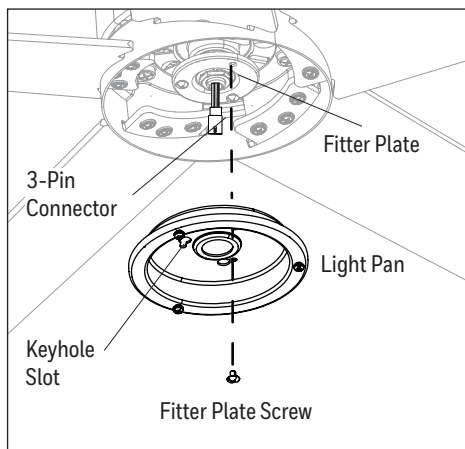

Figure 4.4
4. Remove one of the three fitter plate screws preassembled to the fitter plate and loosen the other two but do not remove. Feed the 3-pin connector through the center hole in the light pan. Align the keyhole slots in the light pan with the loosened screws in the fitter plate. Turn light pan clockwise and replace the previously removed fitter plate screw. Tighten all screws (Figure 4.4).